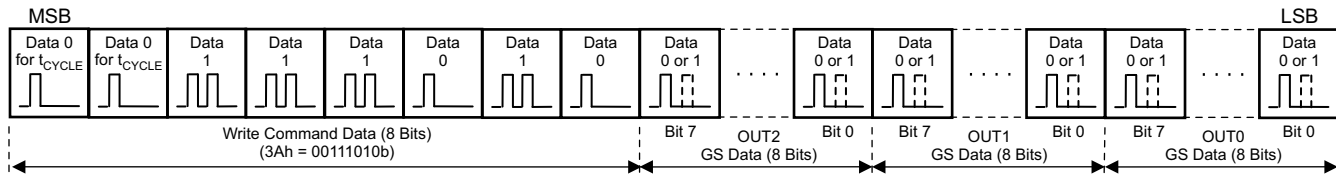
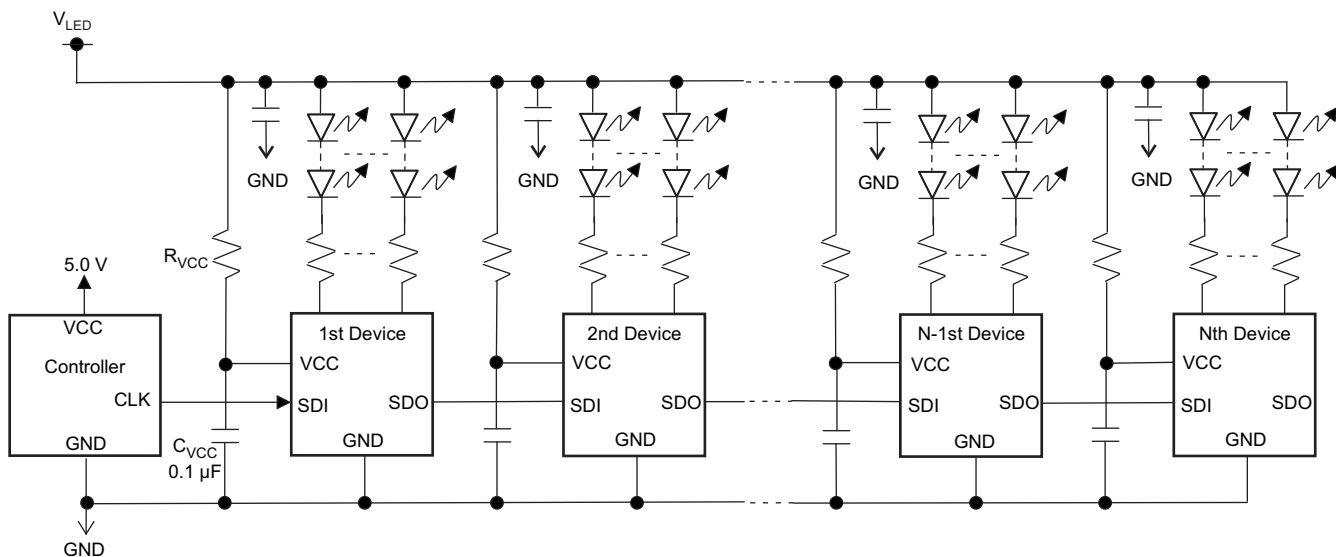

Figure 20. 32-Bit Data Packet Configuration for One TLC59731
Figure 21. Cascade Connection of N TLC59731 Units (Internal Shunt Regulator Mode)
The 8-bit write command and 24-bit grayscale (GS) data for OUT0 to OUT2 (for a total of 32 bits of data) must be written to the device. Figure 20 shows the 32-bit data packet configuration. When multiple devices are cascaded (as shown in Figure 21), N times the packet must be written into each TLC59731 in order to control all devices. There is no limit on how many devices can be cascaded, as long as proper VCC voltage is supplied. The packet for all devices must be written again whenever any GS data changes.